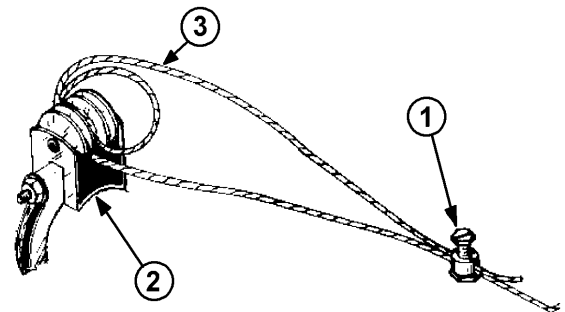

Figure 39. Anti-Roost Cable at the Hopper
2. Start at the hopper end of the line and form a loop around the anti-roost bracket. For best results, make a double loop around the anti-roost insulator in the center groove of the insulator and fasten with a 1/16" cable clamp as shown in **Figure 39**.